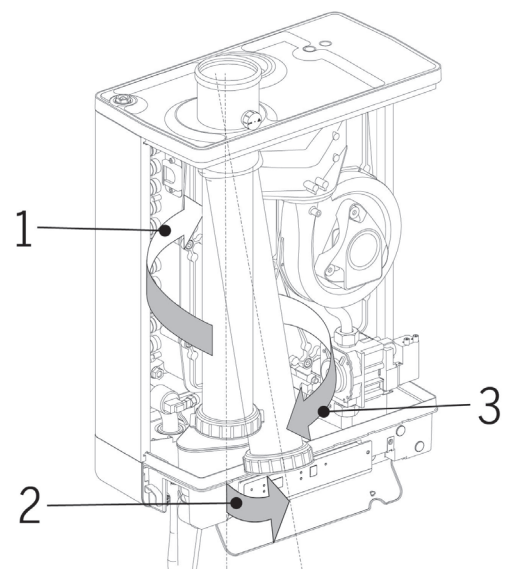

Fig. 3: Removal of Flue Pipe
4. Pull up on the flue pipe to disengage from the condensate pan as show in Fig. 3.
5. Pull the flue pipe down and out to disengage from the vent adapter as shown in Fig. 3.